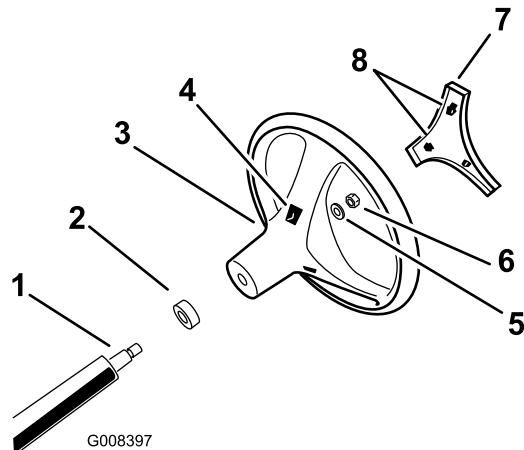

Figure 3
4. Secure the steering wheel to the shaft with the locknut (Figure 3).